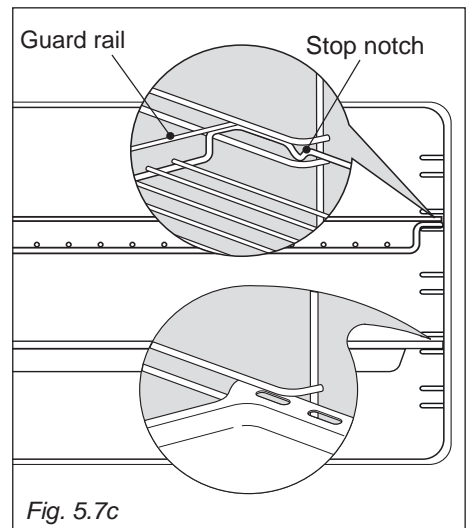

Fig. 5.7c
- Slide in, on the guides, the shelf and the tray (fig. 5.7c).